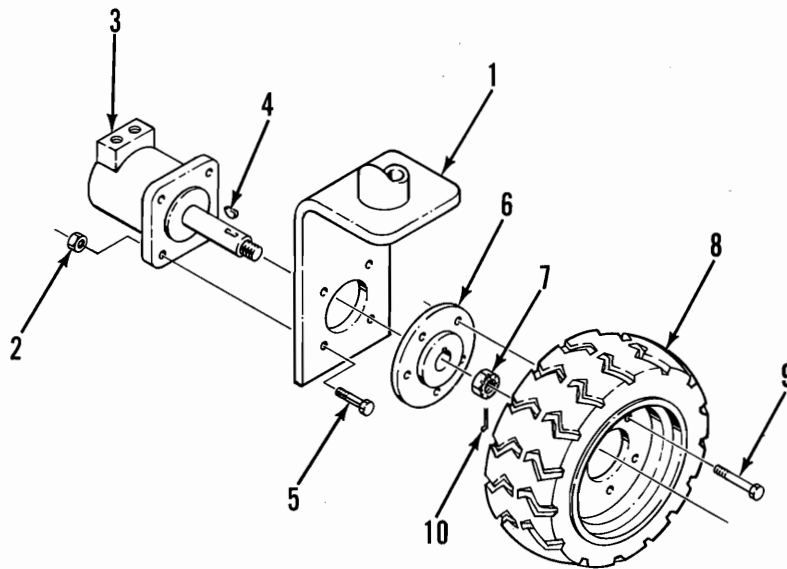

Figure 5-9. Drive Motor Removal
a. Removal (Figure 5-9).
(1) Park the machine on firm level ground then block the wheels to prevent the machine from rolling.
(2) Loosen the wheel cap screws (9) on the front corner to be raised.
(3) Use a 1.5 ton capacity jack to raise the desired front corner.
(1) Refer to Figure 5-9 and position the drive motor (3) on the mounting plate (1) and secure with capscrews (5) and locknuts (2).
(2) Remove the plugs from the hose assemblies and connect to the drive motor (3).
(3) Install the shaft key (4), hub (6) and locknut (7). Torque the locknut to 350 to 400 ft. lb. Install the cotter pin (10).
(4) Install the wheel (8) with capscrews (9) onto the hub (6). Torque to 40 ft. lb.
(5) Lower the jack and remove. Operate the drive system and check for leaks.